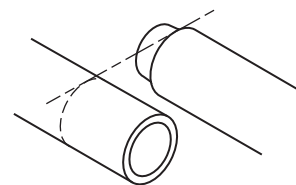

Figure 12
- 5) Lay two sections of the roll-up bar (1) on a flat surface, overlapping the open end of the tube with the welded billet in the other tube. Adjust the overlap so the 3" diameter tube is equal to the dimension determined in the previous step.
- 6) **See Figure 12.** Mark the open ended tube for a cut that allows a smooth and even weld to the billet in the other tube.